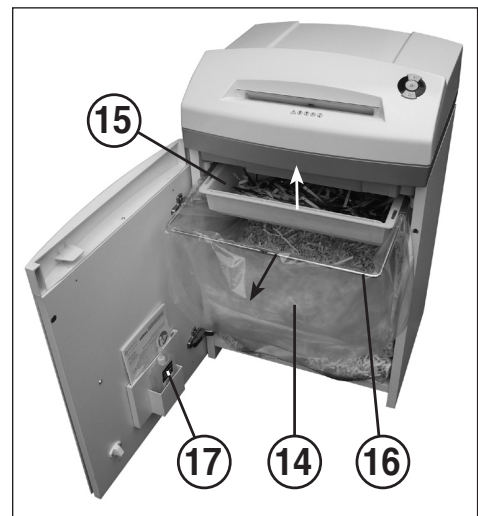

Fig. 4
- 14 = **Saco recolector para papel (Fig. 4)**
- 15 = **Recipiente recolector de CD/DVD (Fig. 4)**
- 16 = **Bastidor del saco (Fig. 4)**
- 17 = **Botellita de aceite (Fig. 4, 6)**
CÓMO VACIAR EL SACO RECOLECTOR PARA PAPEL (Fig. 4):
CÓMO VACIAR EL RECIPIENTE RECOLECTOR PARA CD/DVD (Fig. 4):